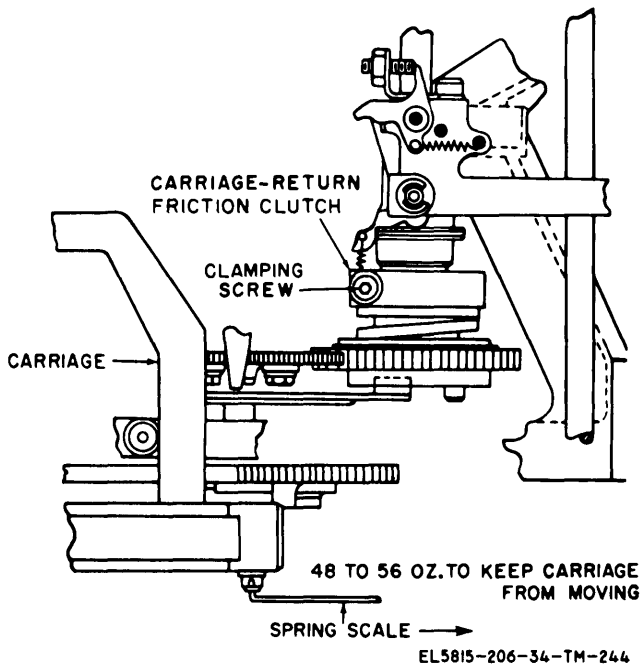

Figure 3-171. Carriage-feed friction-clutch adjustment.
**3-204. Carriage-Feed Friction-Clutch Adjustment (fig. 3-171)**
position the carriage 10 spaces from the left-hand margin, Hook a 64-ounce spring scale at the point shown on figure 3-171. Hold the spring scale and press the space bar. The carriage will move to the right until the pull of the spring scale stops it. Move the spring scale slowly to the right and read it when the carriage starts to move again. Continue reading the spring scale in this manner until the carriage has reached the right hand margin. Note the point at which the reading of the spring scale is the lowest. At this point, the reading should equal the requirement (a above).